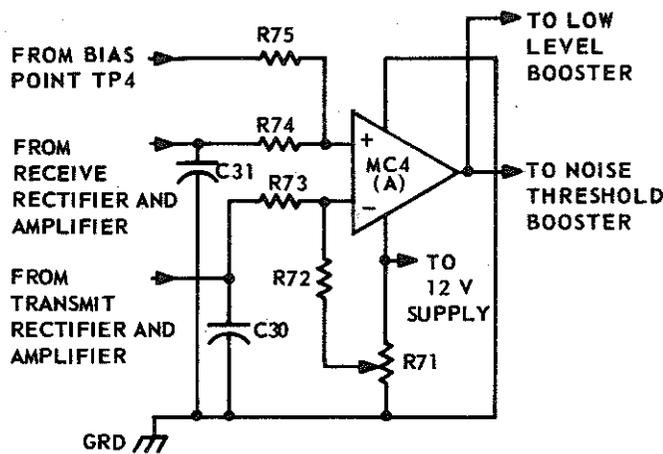

Fig. 8 — Main Comparator Configuration
3.23 A signal, received from the line at TP2, enters the control circuit and is fed through the high-pass, 60 Hz audio filter Q10. The signal is then applied to the (−) input of the receive rectifier and amplifier, MC2(B), where it is rectified and amplified 20 dB (20 log R57/R56). Capacitor C31 charges through R58 and the rectified signal at TP47 is applied to the (+) input of MC4(A). Potentiometer R71 plus resistor R72 bias the (−) input of MC4(A). Potentiometer R71 has been adjusted to set the main comparator for the low output (transmit) state, that is the threshold is set for receive mode operation (Fig. 8).